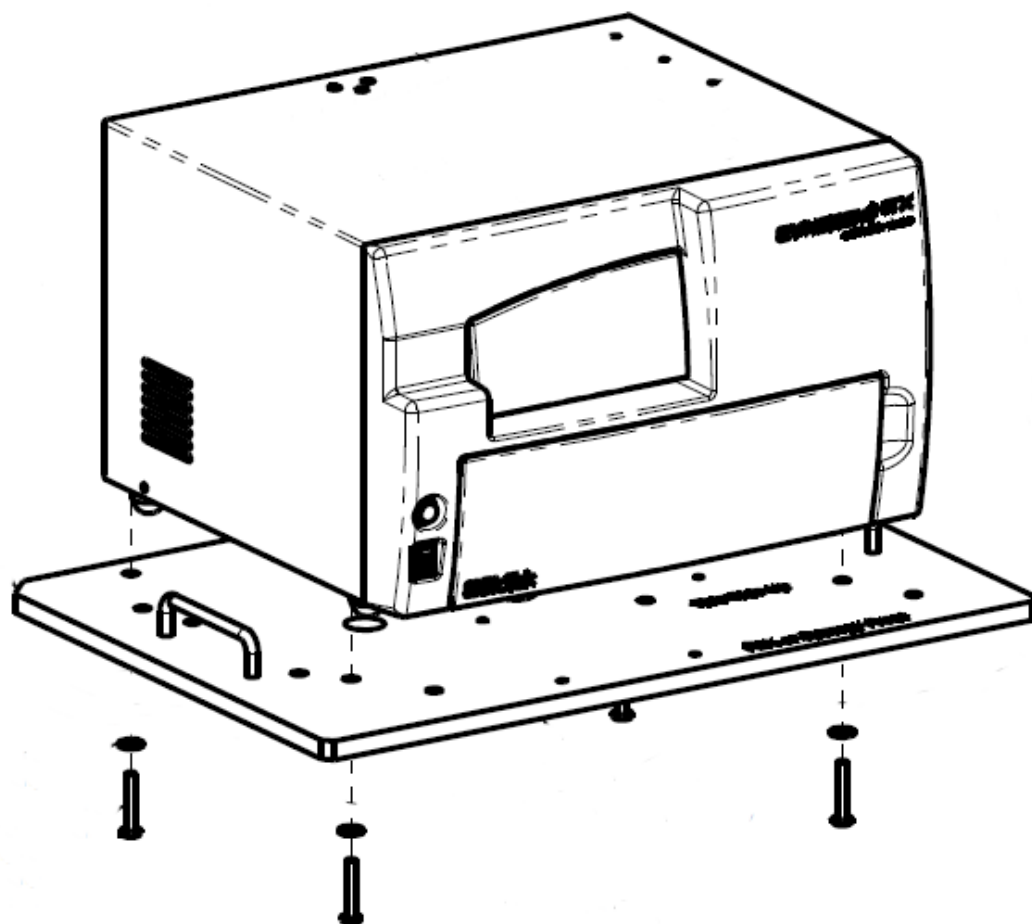

Figure 2: Removing the shipping panel
2. Using a screwdriver, remove the four screws and washers attaching the shipping panel to the bottom of the reader. See **Figure 2** on the next page.
4. Locate the supplied plastic tool storage pocket. Place the screws and washers inside the bag. Use the supplied fastener strips to attach the pocket to the back of the reader for storage. Do not block any air vents. See **Figure 2** on the next page.